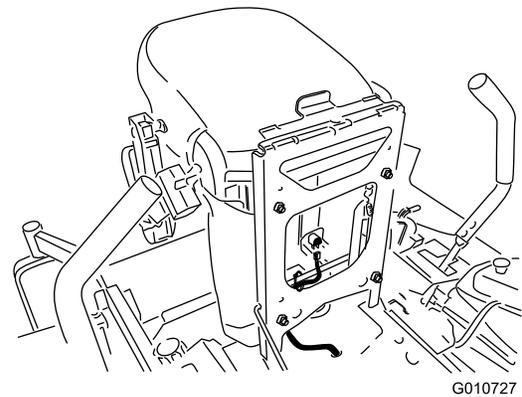

Figure 10
7. Plug the harness connector into the seat switch located under the seat (Figure 10).